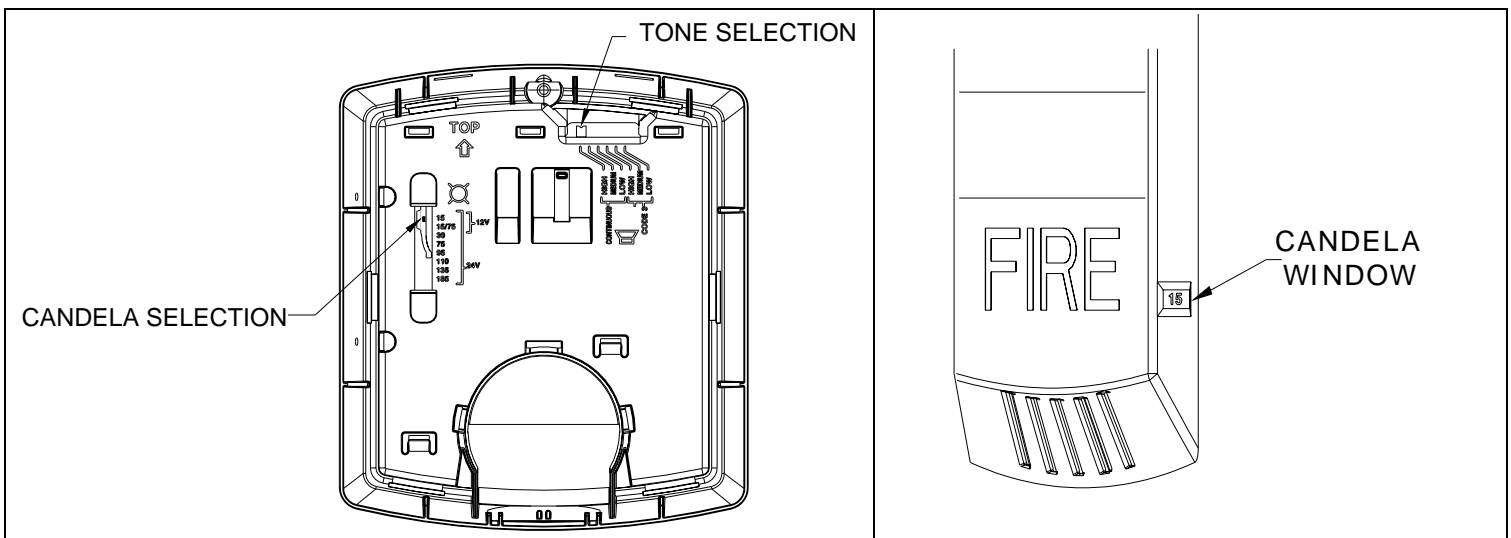

Figure 3: Candela Selector
5. Remove terminal cover before snapping or installing the appliance onto the mounting plate per Figure 3.